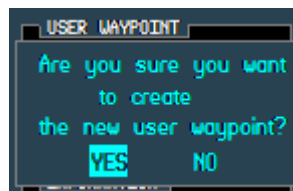

Figure 5.21
- 3.3 click on the ENTER button to display a popup window where you can choose, or not, to create the USRWPT entered (Figure 5.21). Use the small FMS knob to toggle between the choices.